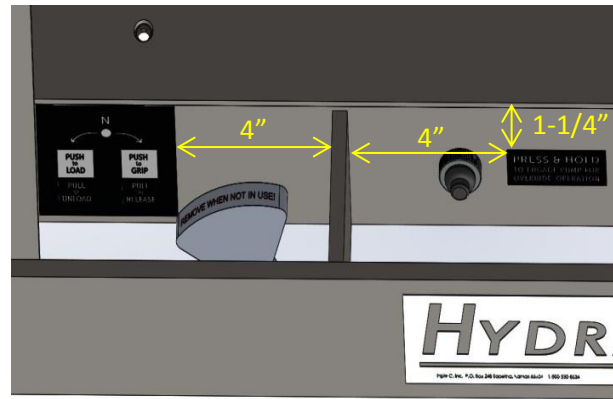

Figure 7
6. Install the included decals at the suggested locations where they can be easily viewed, near the handle and momentary switch. Install the 'REMOVE WHEN NOT IN USE!' decal across the top of the handle as shown. **Figure 7**